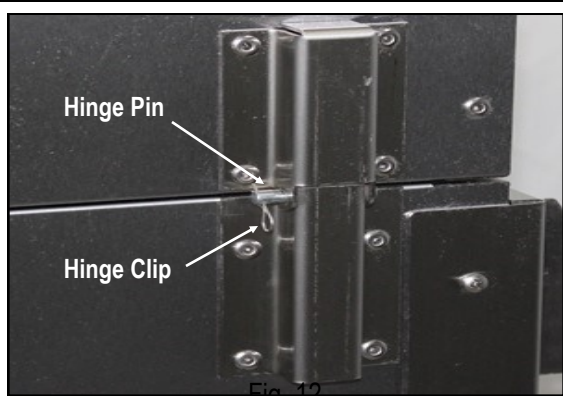

Fig. 12
1. Position the top and bottom hinges together and complete assembly using the 2 hinge pins and hinge clips (Fig. 12).